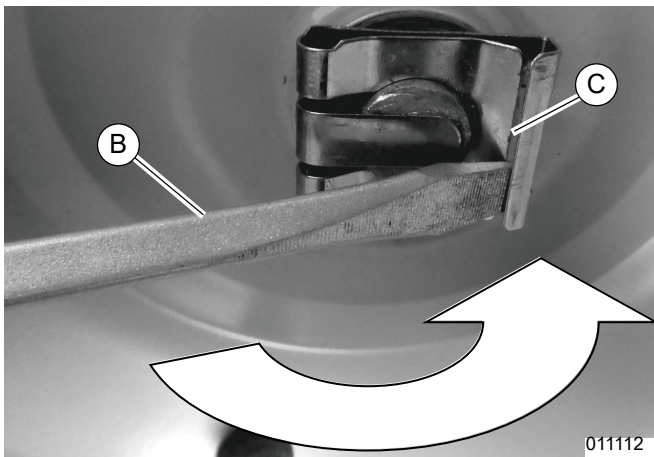

Figure 4-19. Wheel Retaining Clips Location
4. See Figure 4-19. Insert a flat head screwdriver (B) into the slot of the wheel retaining clips (C) and rotate screwdriver away from axle shaft to lift the inside of the clip above the end of the axle.